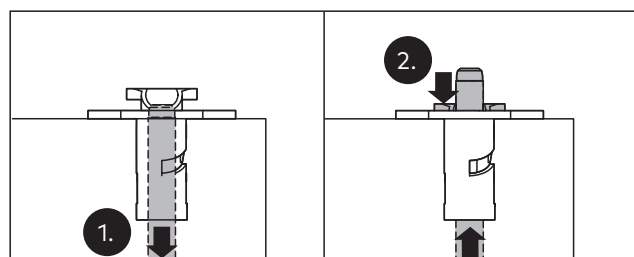

Fig. 50 Perform a function test
13. Function test: Operate the switch lock and check whether the rod extends (Fig. 50).